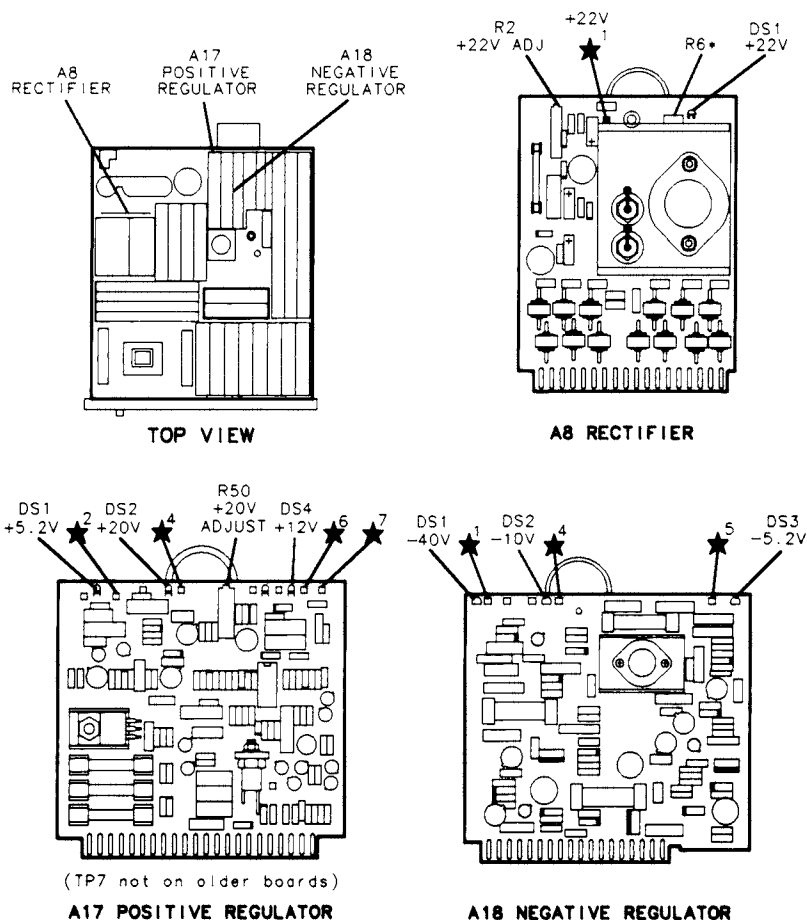

Figure 3-4. Location of RF Section Low-Voltage Adjustments
11. With the LINE switch still ON, the RF Section's +22 V indicator A8DS1 (yellow LED) should be lit. See Figure 3-4.
If A8R2 +22V ADJ does not provide sufficient adjustment range, select a new value for factory-select component A8R6. An increase in the value of A8R6 decreases the voltage at A8TP1. Conversely, a decrease in the value of A8R6 increases the voltage at A8TP1. Refer to Table 3-3 for the acceptable range of values and corresponding HP part numbers for A8R6, and to Figure 3-4 for the location of A8R6.